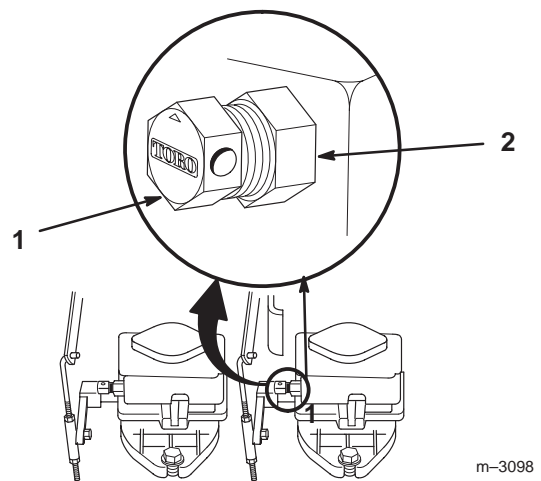

Figure 34
- Loosen large jam nut several turns (Fig. 34).
- Gently close by-pass valve (Fig. 34).
- Open by-pass valve 1/2 turn (Fig. 34).
- Tighten jam nut to lock the adjustment (Fig. 34).